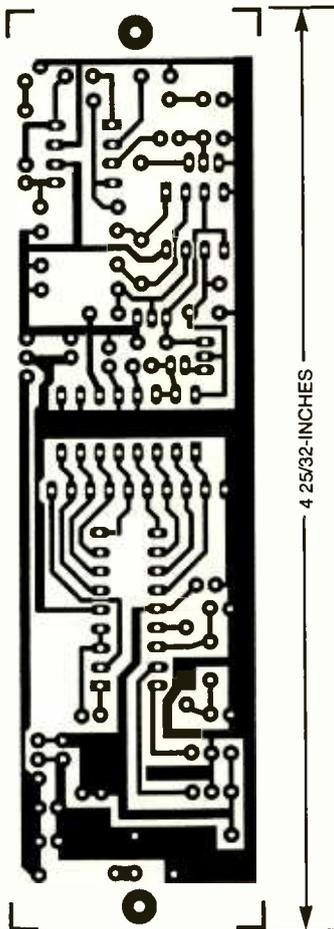

Fig. 8. The Fluxgate Magnetometer circuit fits neatly on a single-sided PC board.
**Construction.** Building the Fluxgate Magnetometer is easiest with a printed-circuit board. A foil pattern for a single-sided board is shown in Fig. 8. If you don't wish to etch your own board, one is available from the source given in the Parts List.